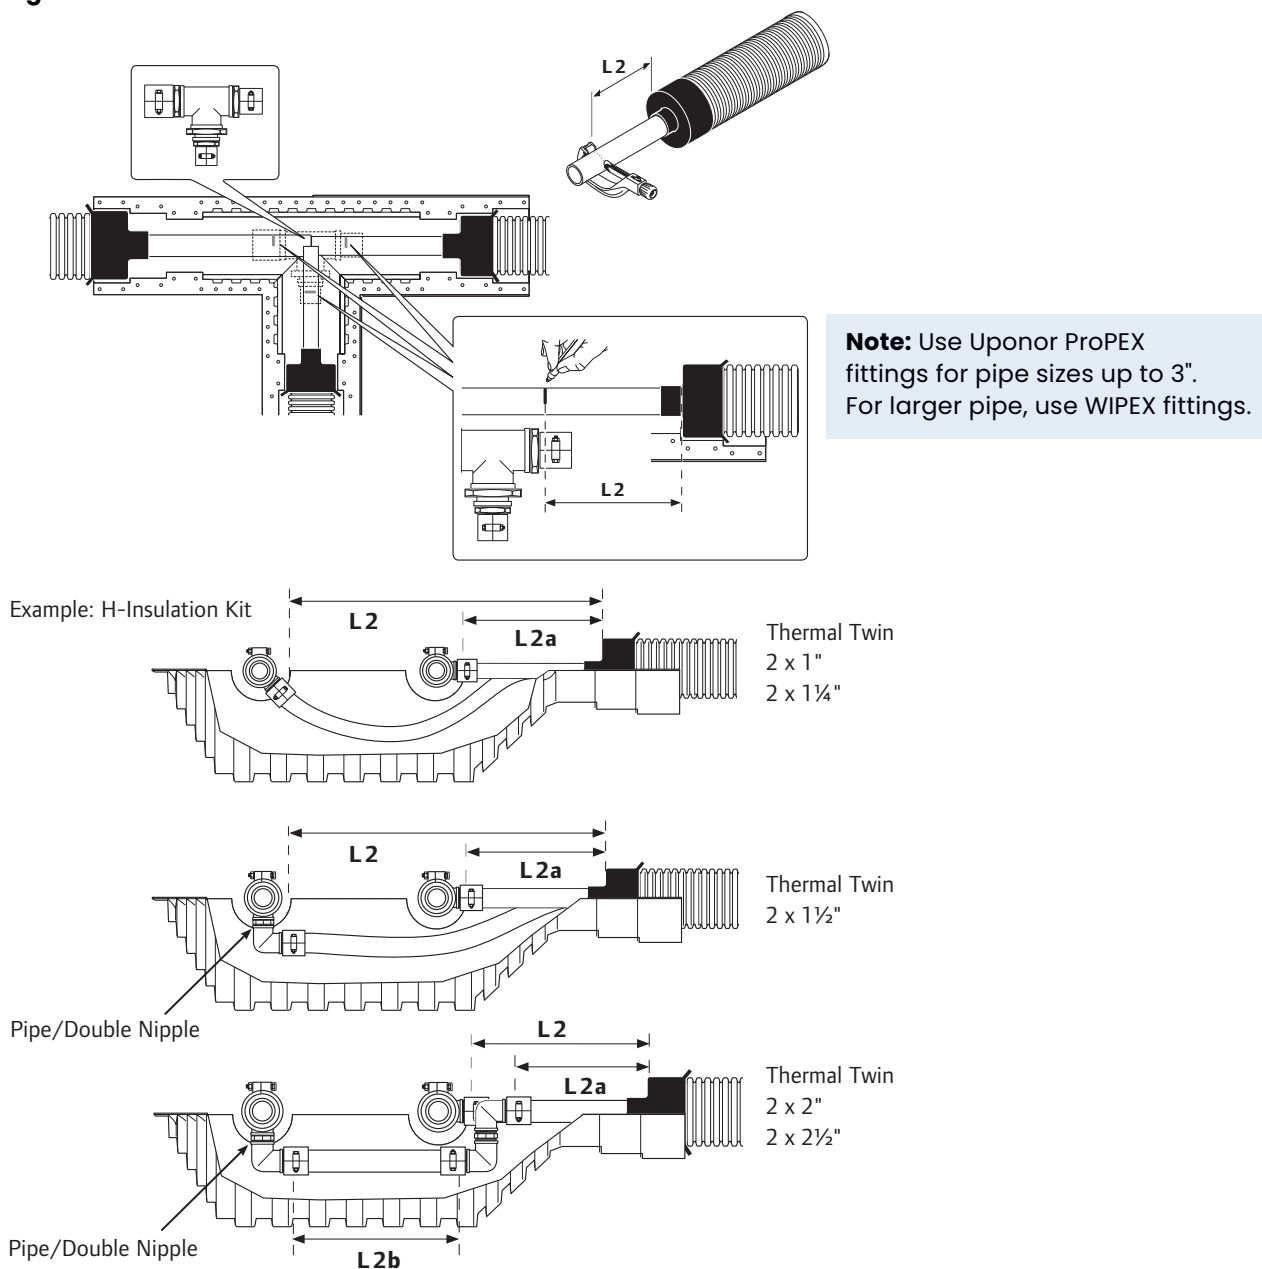

Figure 4-63: Determining lengths for assembly and pipe styles
1. Determine pipe lengths for the pipe assembly, measure the amount of pipe needed for the assembly. Refer to **Figure 4-63**.